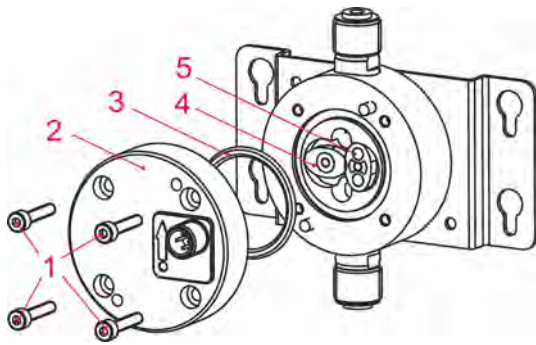

Fig. 4: Maintenance
1. ➤ Remove the four bolts (Fig. 4, Pos. 1) on the oval gear meter.
2. ➤ Remove the cover (Fig. 4, Pos. 2).
3. ➤ Remove the two oval gear wheels (Fig. 4, Pos. 4 + Pos. 5) and clean or replace them.
*It is recommended in all cases that the O-ring seal (Fig. 4, Pos. 3) between the cover and the housing should always be renewed.*
*Under all circumstances ensure correct seating of the oval gear wheels! The oval gear wheels must be inserted in such a way that they are offset to one another at precisely 90° (Fig. 4, Pos. 4 + Pos. 5).*